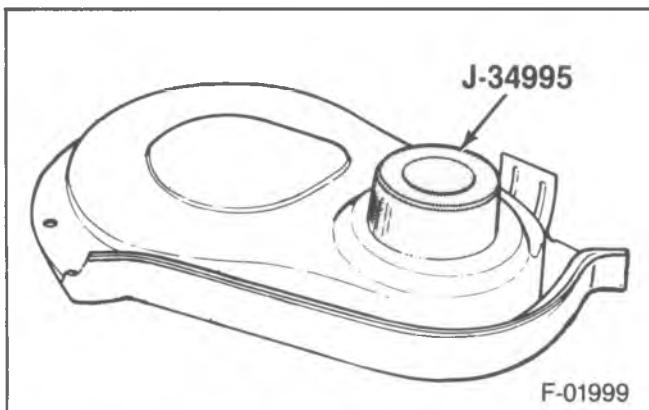

Figure 31—Installing the Front Crankshaft Seal
- Seal (101). Pry the seal out with a screwdriver.
**Assemble (Figure 31)**